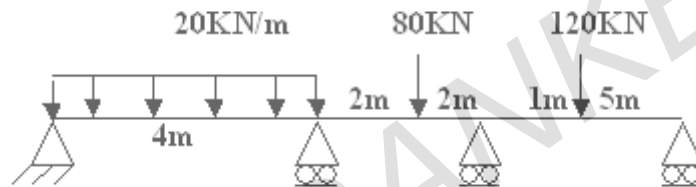

Figure 4
8. Analyse the Continuous beam shown in figure 4 using flexibility method and draw BMD. [16]